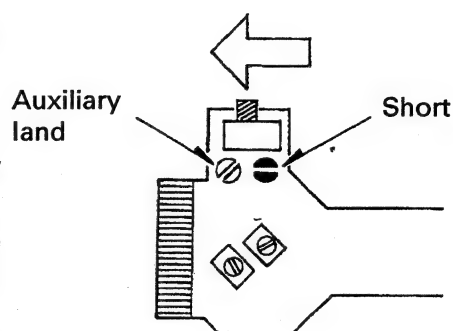

Fig.5
3. Set the pick-up flexible cable to a shorted position on the land end (the other is auxiliary), and turn the SW knob in the direction opposite to OP (see fig.5).